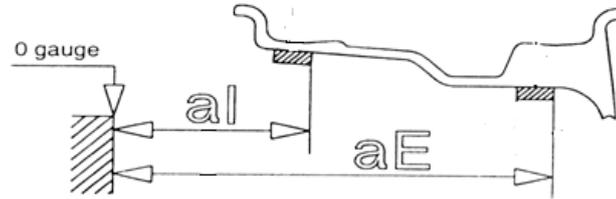

Figure10-3
10.4.3 Slowly rotating wheel, when inside counterweight position indicator light all on, and show “OK”, stick correspond counterweights on 12 o'clock position inside of rim refer to left part of Figure 10-3.
10.4.4 Slowly rotating wheel, when outside counterweight position indicator light all on, and show "OK", stick correspond counterweights on 12 o'clock position outside of rim refer to right part of Figure 10-3.
10.5.4 Slowly rotating wheel, when outside counterweight position indicator light all on, and show "OK", stick correspond counterweights on 12 o'clock position outside of rim refer to r Figure 10-3.